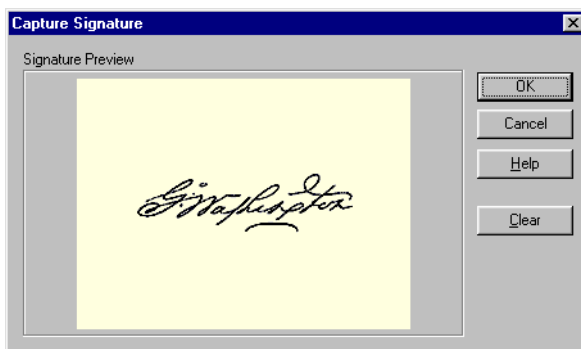

Figure 31: Captured Signature
8. Have the cardholder take the stylus in hand and enter a signature, just like signing a piece of paper. As the signature is written, it appears in the Capture Signature window (see Figure 31).